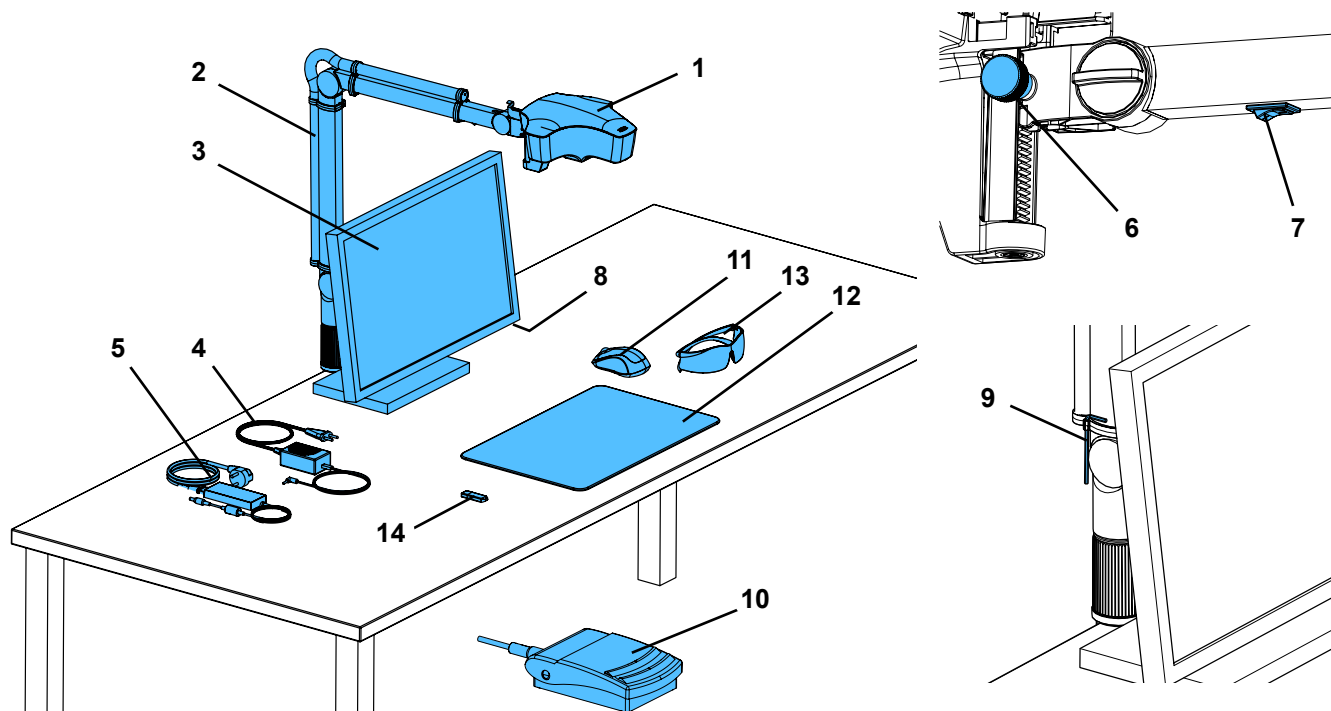

Fig. 1
- ⇒ Place the desk pad (12, Fig. 1) on the work table.
⇒ Place the mouse (11, Fig. 1) next to the desk pad..
⇒ Place the foot switch (10, Fig. 1) under the table and insert the cable for the foot switch into the foot switch
- Fasten the screw at the head (31).
- Middle clamping screw (32).
- Clamp screw on base part (33).
- Clamping screw (34) with the included tool (9, Fig. 1).